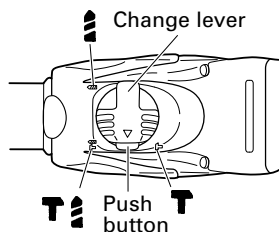

Fig. 14
(1) Mount the bull point or cold chisel.
(2) Press the push button and set the change lever to middle of **T** and **T** mark. (Fig. 14)